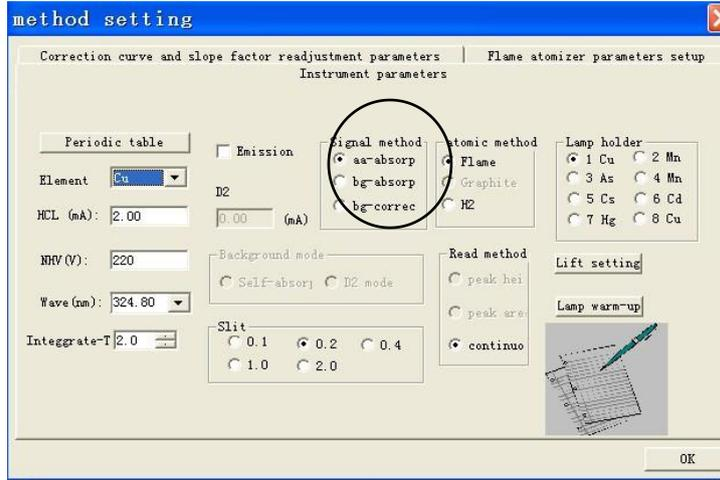

Figure 4-18
8. Signal types: Signals have three types, atomic absorption, background absorption, and background correction. Select any type of the radio boxes (The dot in the box indicates being selected), as shown in Figure 4-18.